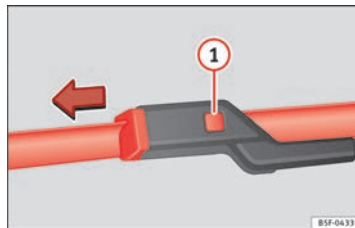

Fig. 142 Change windscreen wiper blade.
- Press on the securing tab ① ⇒ Fig. 142.